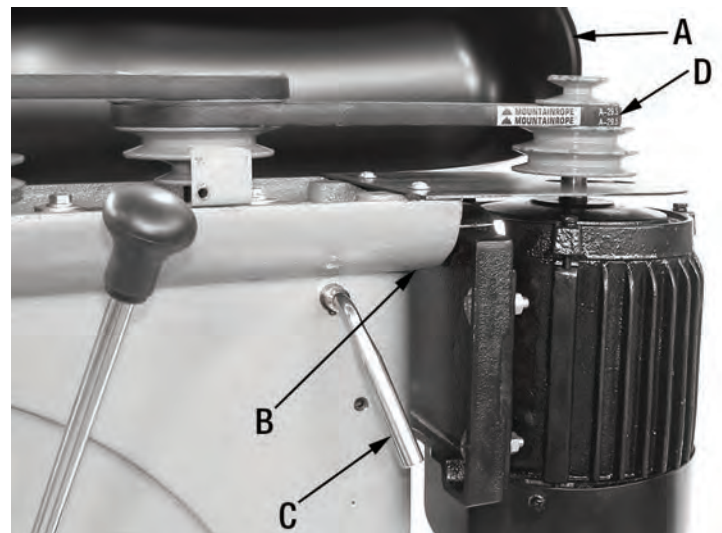

FIGURE 19
- 1) Lift the guard (A) Fig.19 and keep it opened.
- 2) Loosen the belt tension set screws (B) located on both sides of the drill press head. Release tension to the motor belt by turning belt tension handle (C) counterclockwise. The motor pulley (D) can now be removed.
- 5) Once both belts are positioned on the pulleys, turn the belt tension handle (C) Fig.19 clockwise to apply tension to the belts.
- 7) Retighten the belt tension set screws (B) Fig.19.